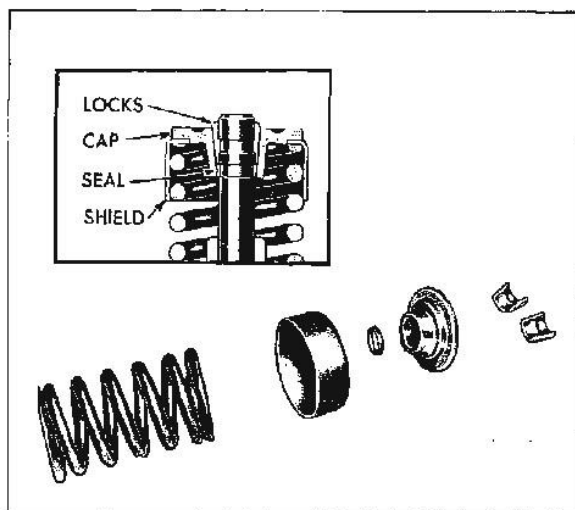

Fig. 6-29 Upper Valve Train Parts
3. Using tool J-8062, compress the valve springs and remove valve keys. Remove spring caps, spring seats, oil seals, springs and spring dampers (Fig. 6-29).
1. Starting with No. 1 cylinder, place the exhaust valve in the port and place the valve spring and cap in position. Place spring and rotator on exhaust valves. Then using suitable spring compressor, compress the spring and install the oil seal and valve keys. See that the seal is flat and not twisted in the valve stem groove and that the keys seat properly in the valve stem groove (Fig. 6-29).